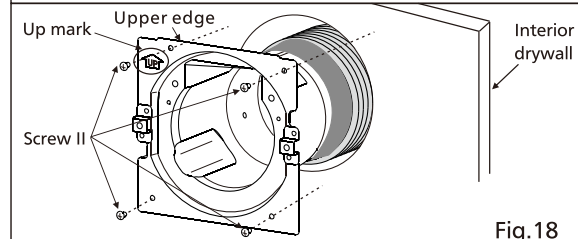

Fig.18
- Insert the duct into wall and secure it with 4 screw II (ST4.2X20) in accessory. (Fig.18)